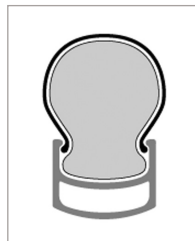

FIGURE 3.45
9. Inflate the tire to about half pressure and then check that the tire bead is properly seated in the rim (Figure 3.45).